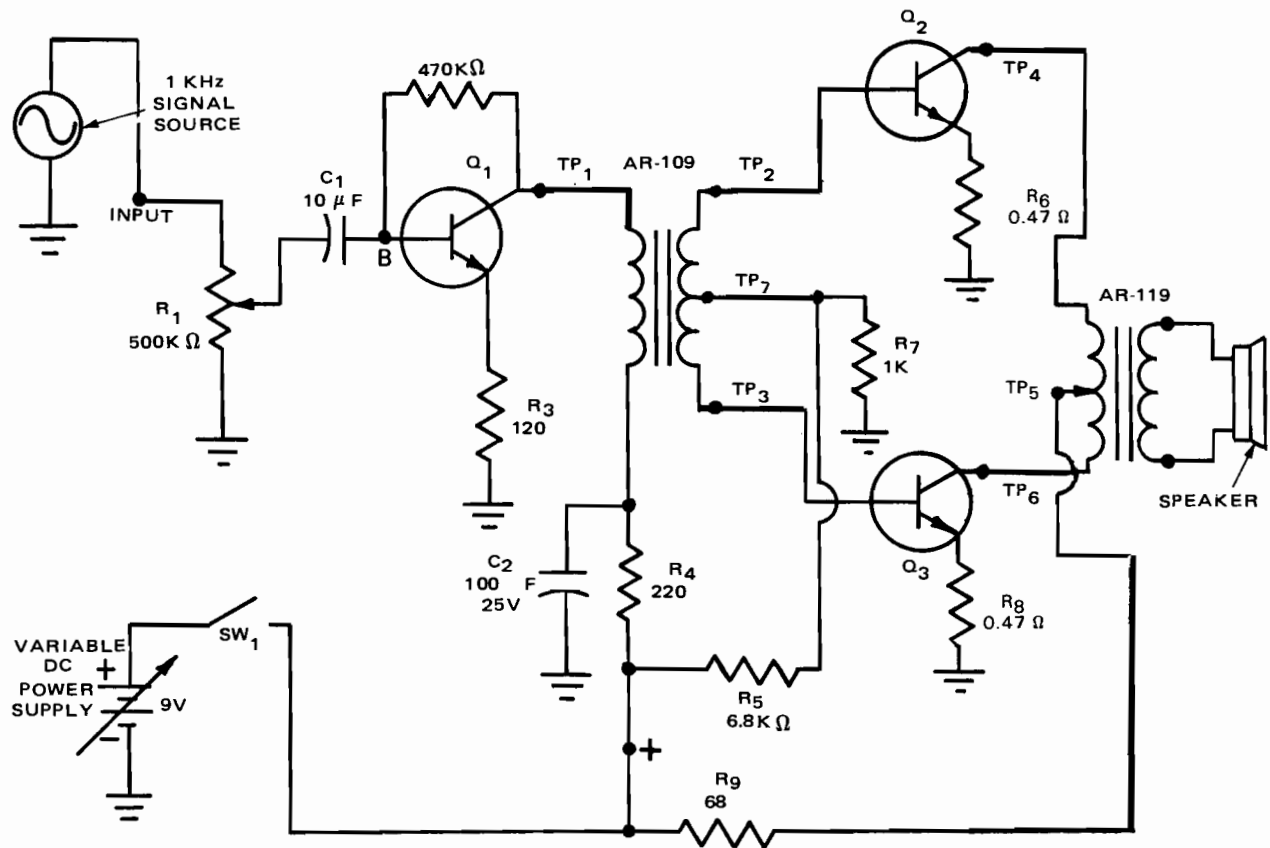

Fig. 16-5-1
1. Connect a push-pull audio frequency amplifier circuit as in Fig. 16-5-1.
- What class of amplification is achieved by Q₁, Q₂, and Q₃ of Fig. 16-5-1? _____